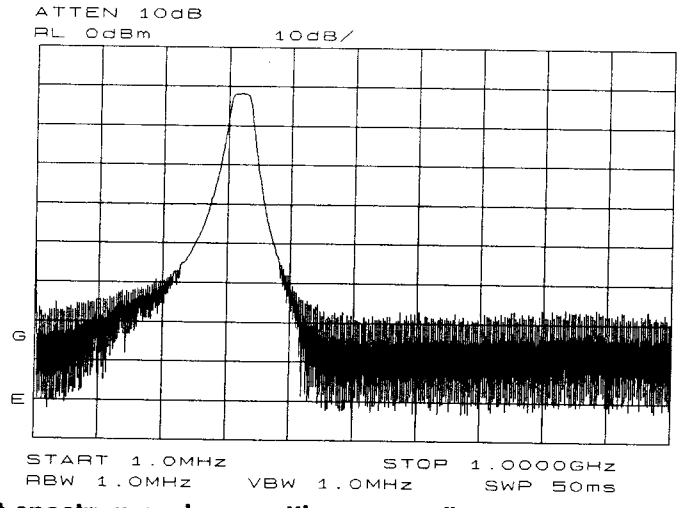

Figure 3-18. Adjust spectrum analyzer settings according to the measurement requirement.
3. Since we are only interested in the rejection of the bandpass filter, tune the spectrum analyzer's center frequency so that the rolloff of the filter comprises the majority of the trace on the display (see Figure 3-18).